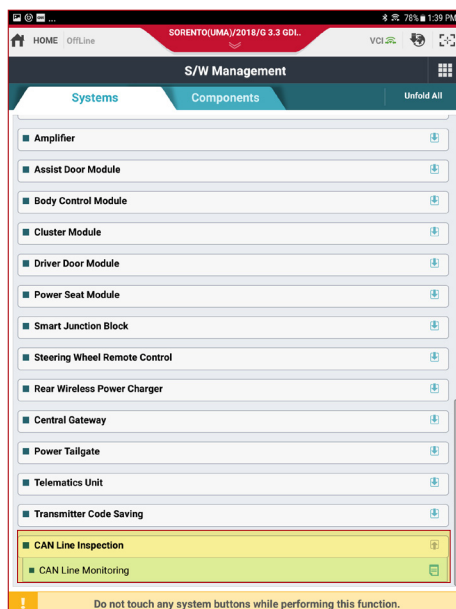

Fig. 2. S/W Management Page (CAN Line Inspection tab at bottom, highlighted)
2. Once the S/W screen list of Systems is displayed, scroll down and select "CAN Line Inspection" (See Fig. 2)